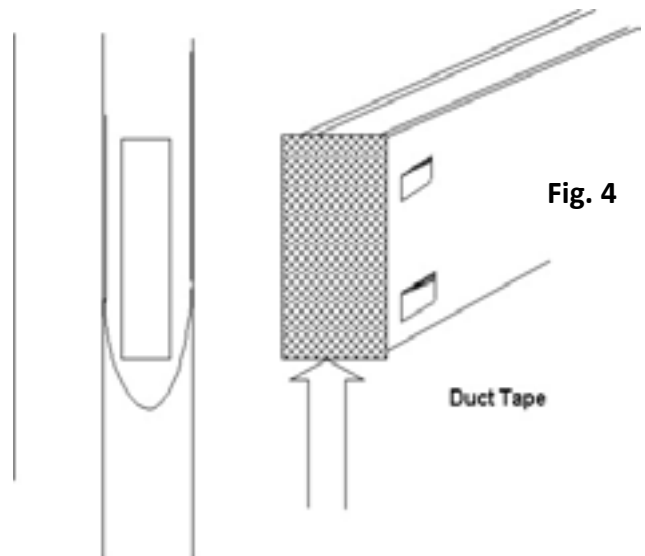

Fig. 4
**Note:** The rails which are to be placed into the corners, ends and gate posts (posts which will be back filled with concrete), must be duct taped before installing to prevent concrete from flowing inside of the rails (Fig. 4).